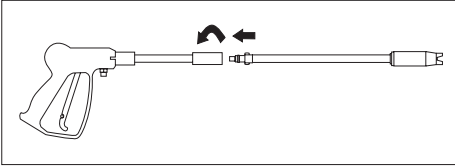

Figure 7 - Gun/Lance Connection
1. Insert lance into the gun and turn clockwise to positive stop as shown in Figure 7.